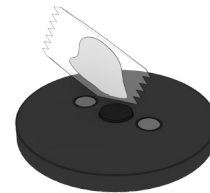

Fig.12
3. Apply a pea-sized amount of sonic grease (Fig.12) to the rubber pad on the LP Sensor before placement. The rubber pad sits between the two magnets on the bottom of the LP Sensor.